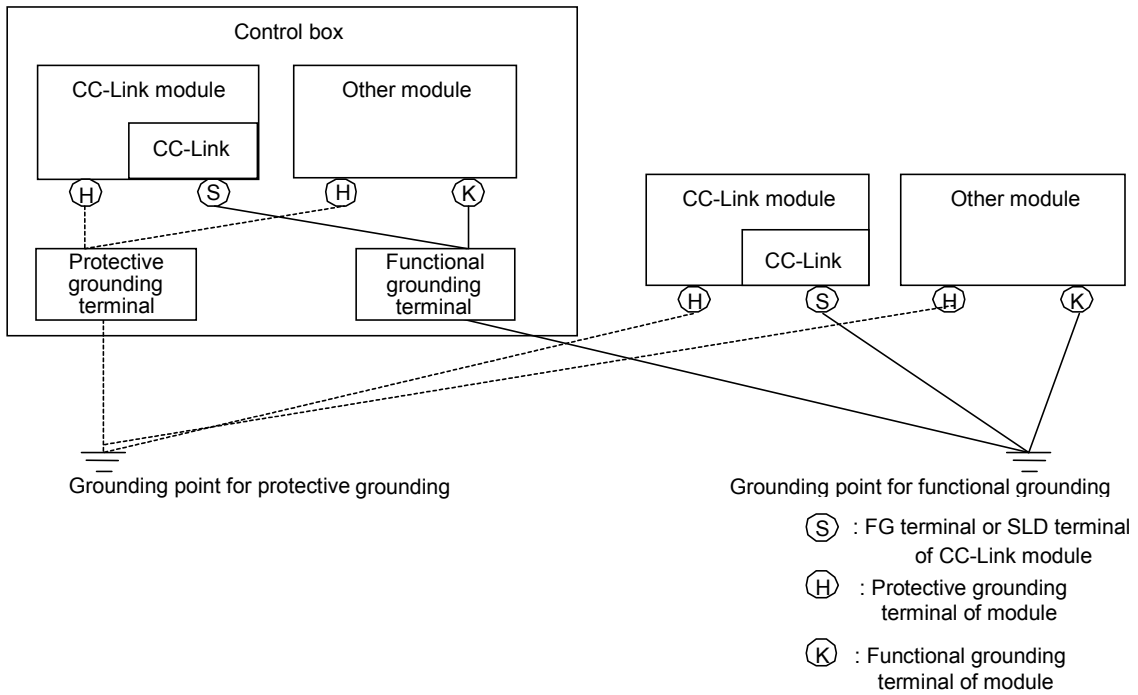
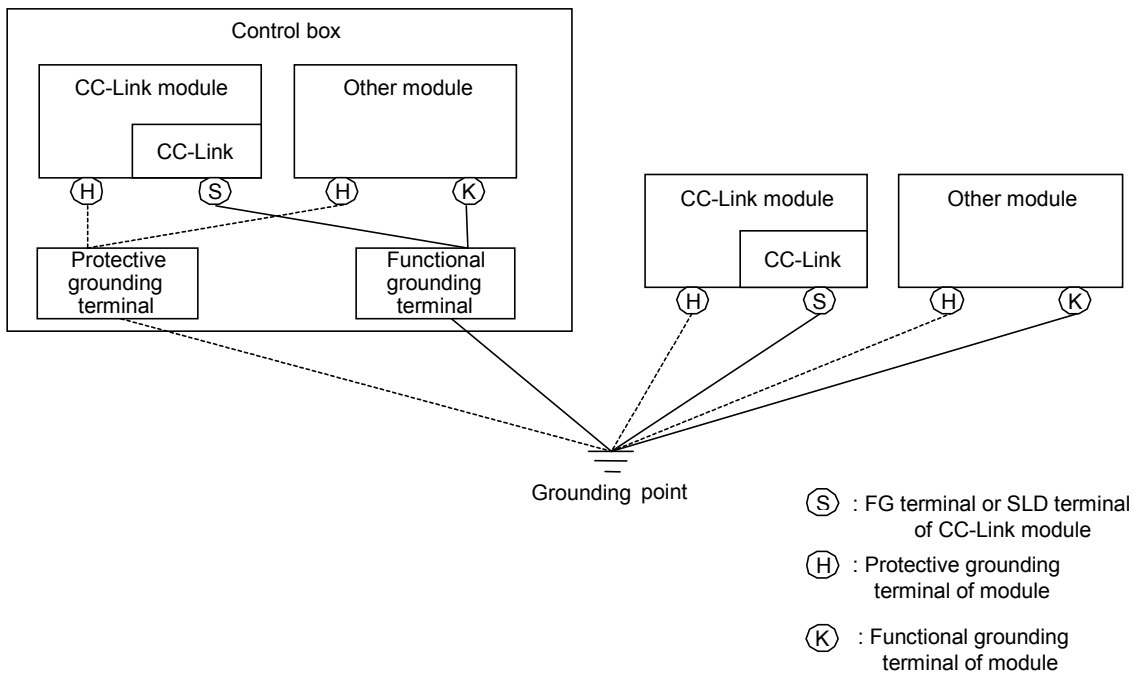

Fig. 4.6 Independent grounding example
Fig. 4.7 Common grounding example
- If not use ground independently, use common ground according to the Fig. 4.6.
For protective grounding or functional grounding, use independent grounding (Fig. 4.6) or common grounding where cables are wired individually up to the grounding point (Fig. 4.7).